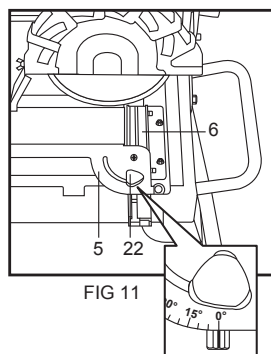

FIG 11
Making 90° cuts (Fig. 11/12)
- Slacken the handle knob (22) and push the angle stop (5) into the required position and set the angle to 0° degrees (see Fig.11), then tighten the handle knob (22) again in order to secure the angle stop (5).
- Then slacken the clamping knob (12) and push it to the required position.
- You can now move the machine head (23) by the handle (9) to the rear.
- Place a tile against the stop rail (6) and the angle stop (5).
- Important: Wait until the cooling water has reached the cutting wheel (2).
- Move the machine head (23) by the handle (9) slowly and smoothly forward through the tile.
Making 45° diagonal cuts (Fig. 11/13)